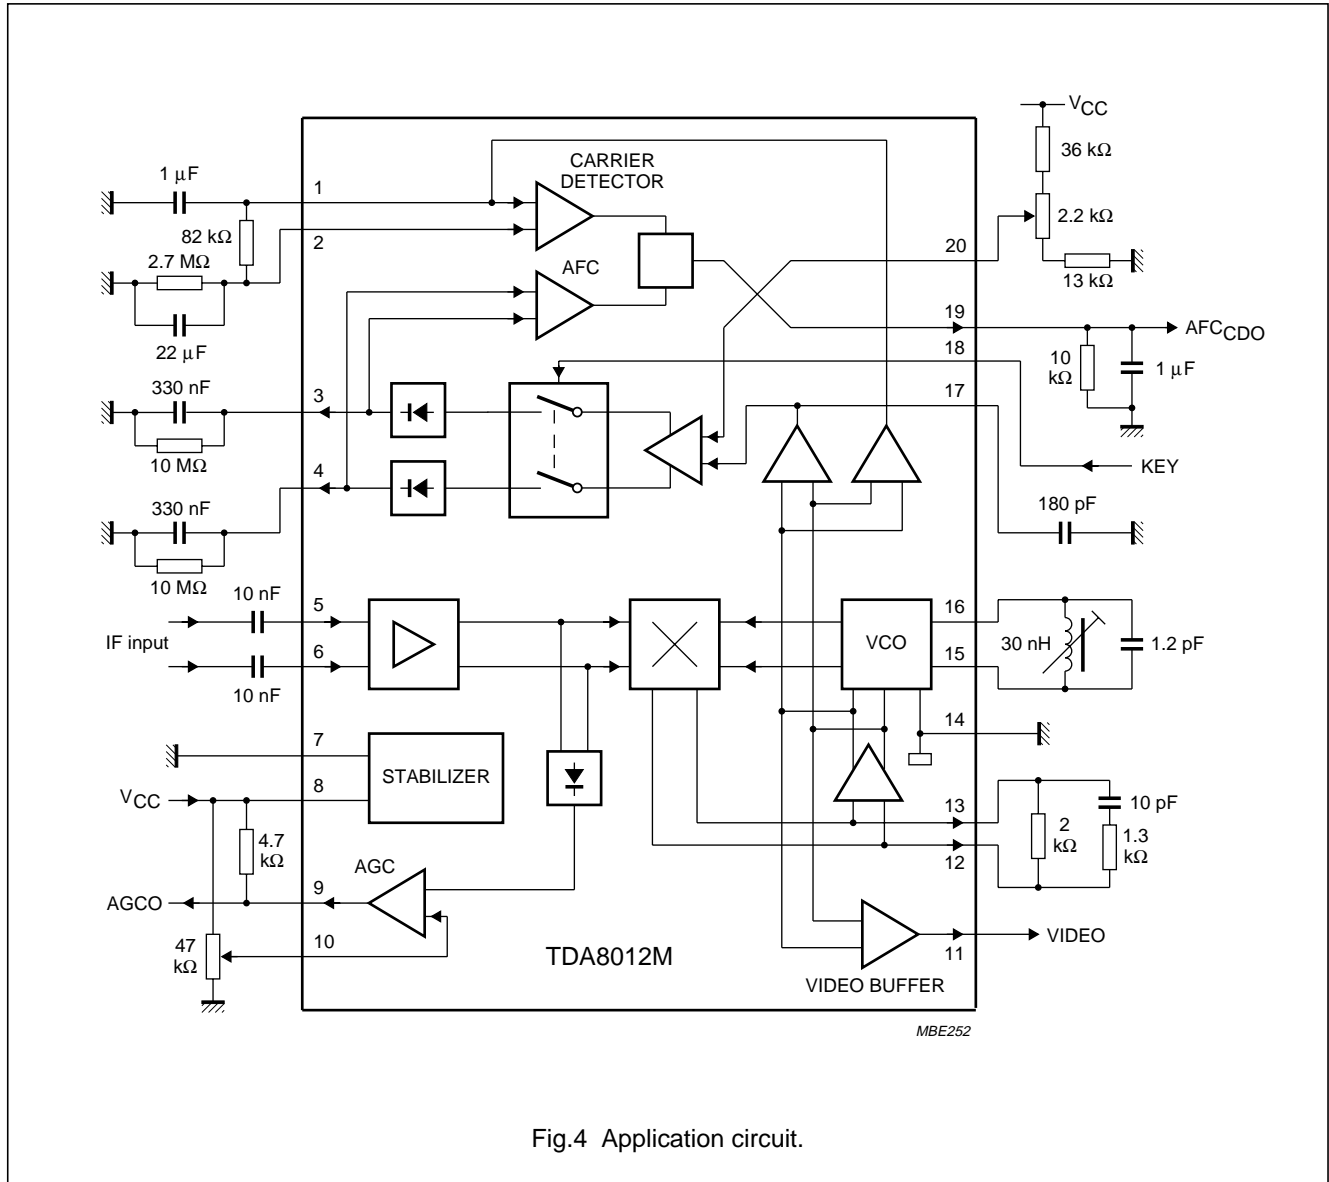

Fig.4 Application circuit.
$V_{CC} = 5\text{ V}$; $f_i = 480\text{ MHz}$; $V_i = 57\text{ dB}\mu\text{V}$; $T_{amb} = 25\text{ }^{\circ}C$; measured in application circuit of Fig.4; unless otherwise specified.
9. The characteristics of the AGC function are measured in the application circuit of Fig.4. The circuit illustrated in Fig.4 has been designed to set the maximum AGC current of 1 mA. The output of the AGC function is capable of handling up to 5 mA. The maximum AGC current can be increased to 5 mA by decreasing the value of the resistor connected between pins 8 and 9.
10. In the application circuit (see Fig.4) the voltage at the AGC output decreases when the IF input level increases above the adjusted AGC threshold.